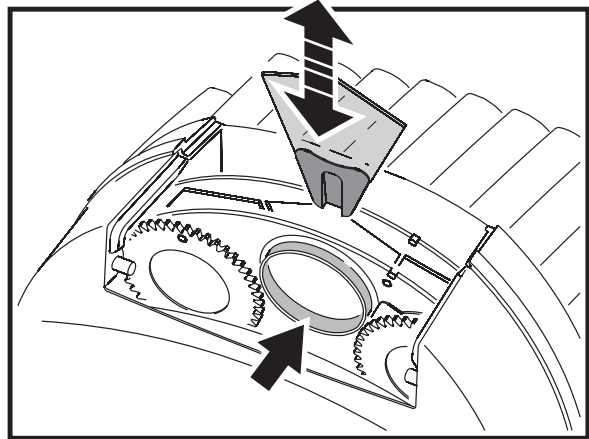

Figure 10: Changing gobos and filters
- To remove a color filter, turn the gobo wheel so that the open position (arrowed in Figure 10) is in front of the filter. Gently press the filter towards the lens to release it and then grasp it by the edges and remove it. If your fingers are too large, protect the glass with a piece of paper that has been folded several times and grasp the filter with needle nose pliers.